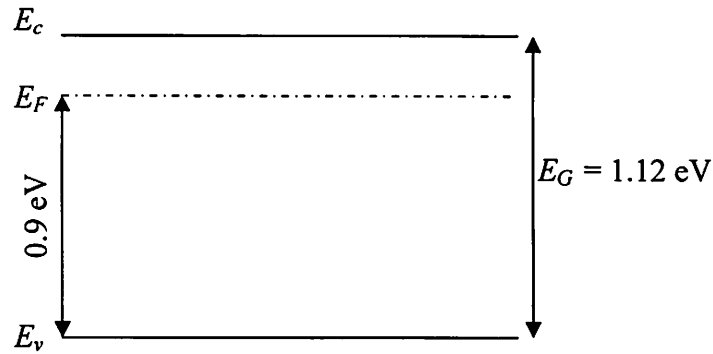

Figure 1.1: The energy band diagram for doped Si.
i) Give the doping type for the semiconductor in Fig. 1.1. Explain why.
ii) Calculate the doping density at room temperature for the semiconductor in Fig. 1.1. You can assume complete ionisation.